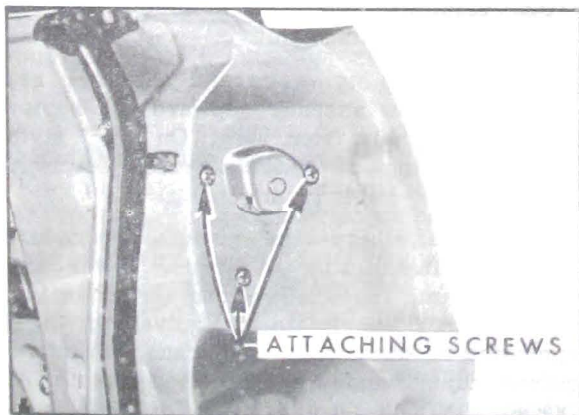

Figure 2-40—Rear Door Assembly
2. Through inner panel access hole remove front guide cam upper attaching screw(s) and front guide cam lower adjusting stud and nut. (See Figure 2-40)
2. Raise door window. Through inner panel access hole remove front guide cam upper attaching screw. (See Figure 2-40)
2. Remove rear cam upper attaching screws and lower adjusting stud and nut. (See Figure 2-40)